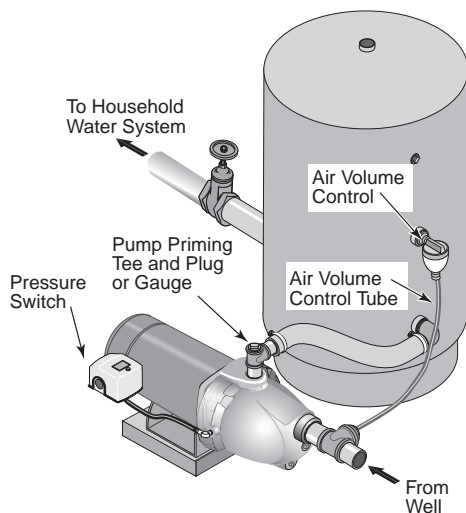

Figure 5: Standard Tank Connections
Standard Tank Connection (Figure 5)
1. Install one tee in the pump discharge port (see Figure 5).